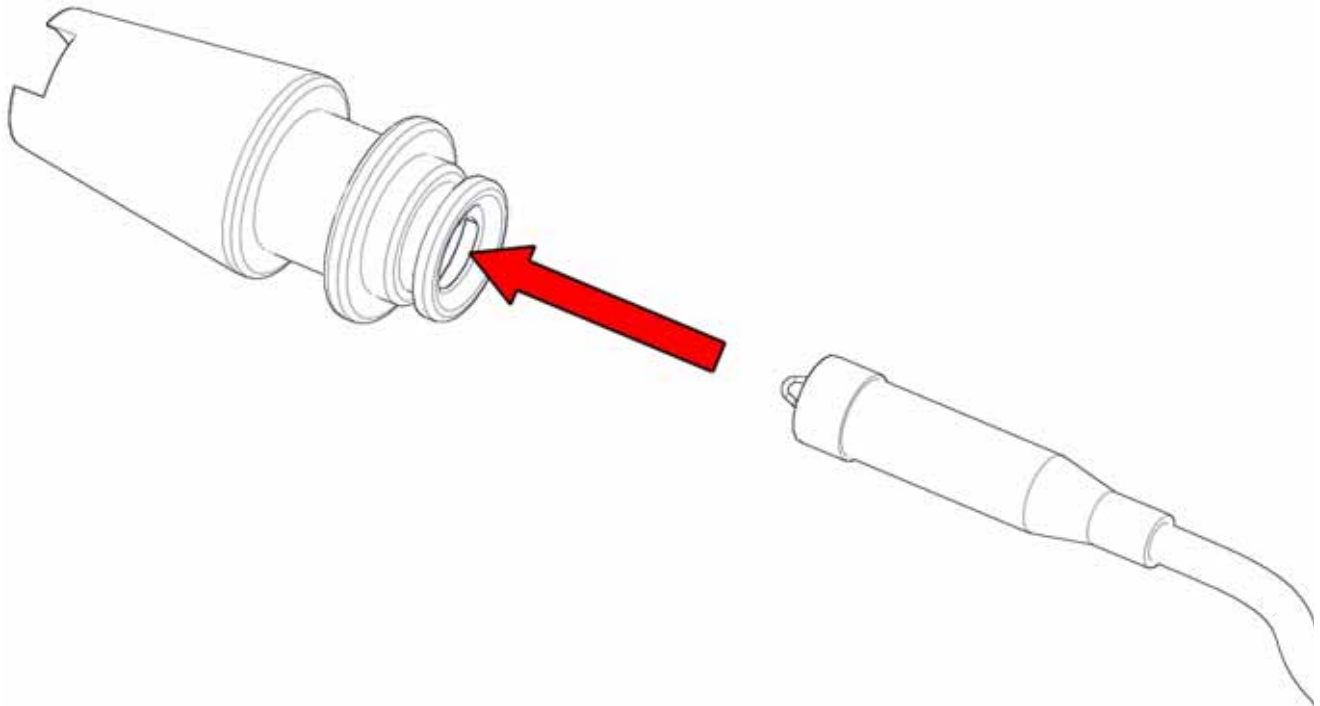
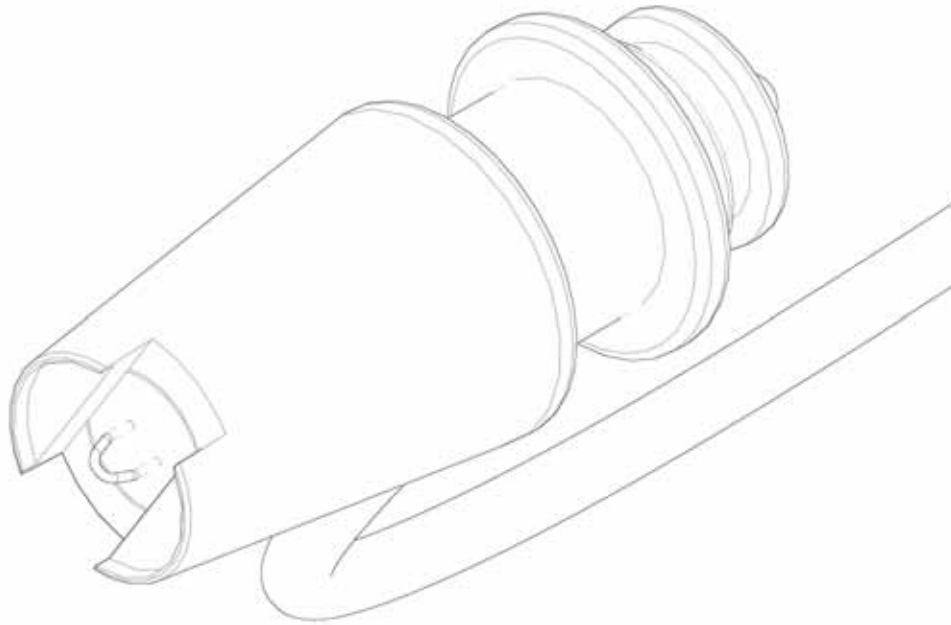

Figure 2-11 Feeding the burn wire assembly into the metal release housing.
Figure 2-12 Release housing.
1. Align the burn-wire bushing assembly with the metal release housing. Then feed the burn-wire bushing assembly into the metal release housing (Figure 2-11 and Figure 2-12).